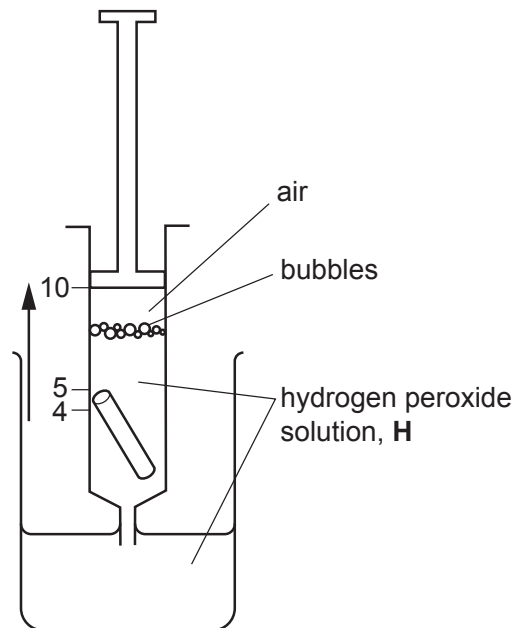

Fig. 1.3
6. Pull the plunger out to the 10 cm³ mark so that **H** enters the syringe, as shown in Fig. 1.3.